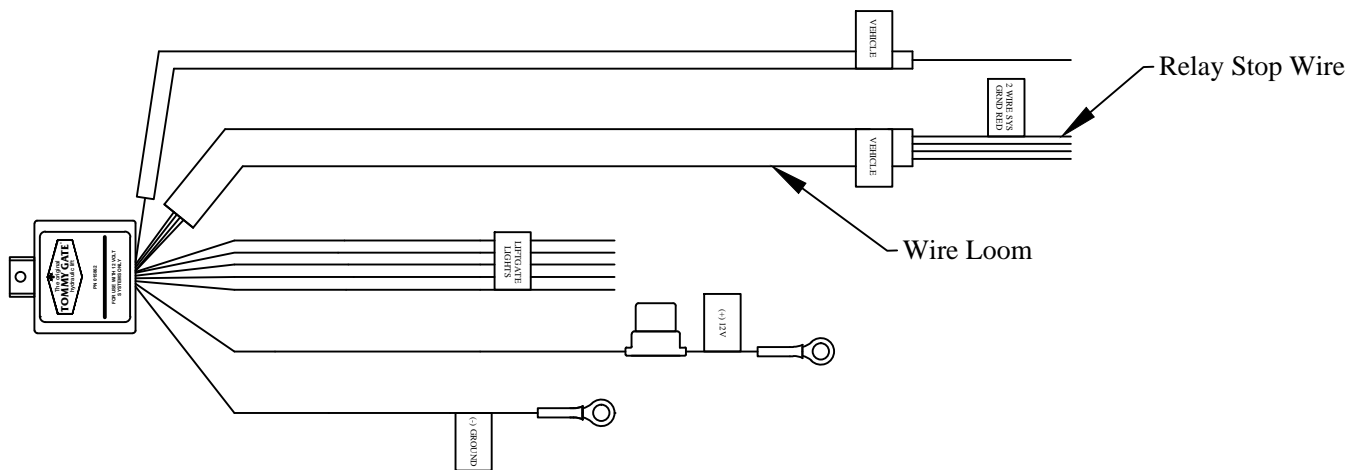

Figure 5: Locating relay stop wire.
11. Remove the relay's red stop wire from the wire loom labeled "VEHICLE" (Figure 5).